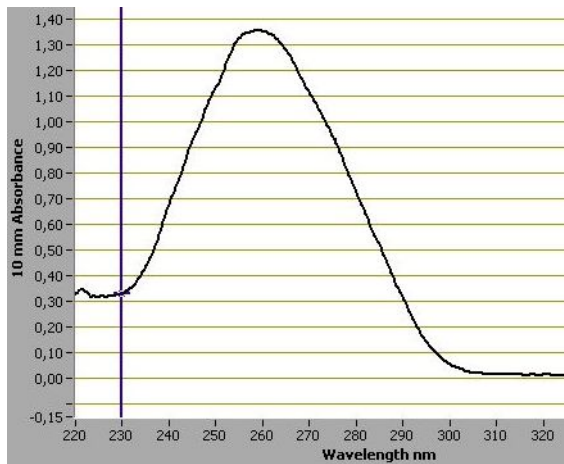

Figure 2 Typical spectrum of pure DNA
- 4 Record the A_{260}/A_{280} and A_{260}/A_{230} ratios. High-quality gDNA samples have an A_{260}/A_{280} ratio of 1.8 to 2.0, which indicates the absence of contaminating proteins. Scanning the absorbance from 220-320 nm will show whether contaminants exist that affect absorbance at 260 nm. Check the absorbance scans for a peak at 260 nm and an overall smooth shape as shown in **Figure 2**. The ideal 260/230 ratio for pure DNA is >1.0.